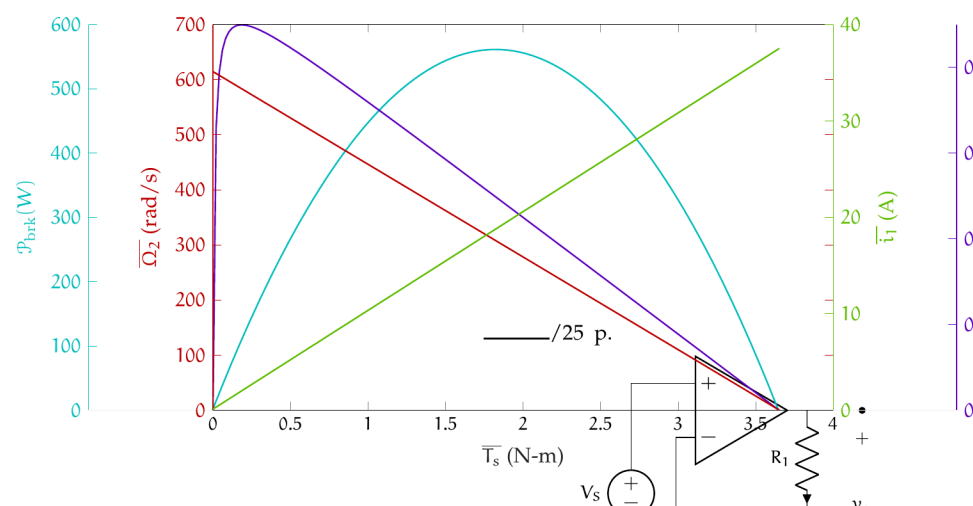

Figure exe.7: motor curves Fig. curve.2 for Exercise emech.
Consider the DC motor curves of Fig. curve.2, reproduced in Fig. exe.7.
- You are to use this motor to drive a load at a constant angular speed of 100 rad/s with at least $1 \text{ N}\cdot\text{m}$ of torque. You wisely choose to use a gear reduction between the motor and load. What should the gear ratio be to meet the above requirements and optimize efficiency? Justify your answer in terms of the motor curves of Fig. exe.7.